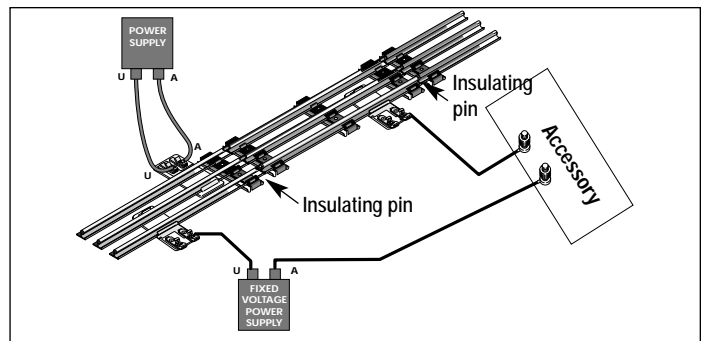

Figure 2. Fixed voltage connections
**A**s illustrated in Figure 2, you may use a separate accessory power supply to power your accessory at a fixed voltage. Connect your track power supply to the track anywhere outside of the Insulated Track Section.